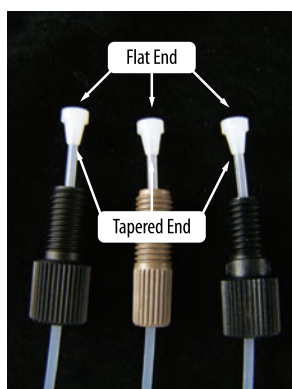

Figure 5. White ferrule with tapered end facing the nut.
- The white ferrule slides onto the tubing with the tapered end toward the nut and the flared end toward the valve port. The tan ferrule slides onto the tubing with the tapered end toward the end of the tubing and the flat end toward the nut. When installing and tightening these fittings, be sure to push the tubing all of the way into the valve ports (See **Figures 5** and **6**).